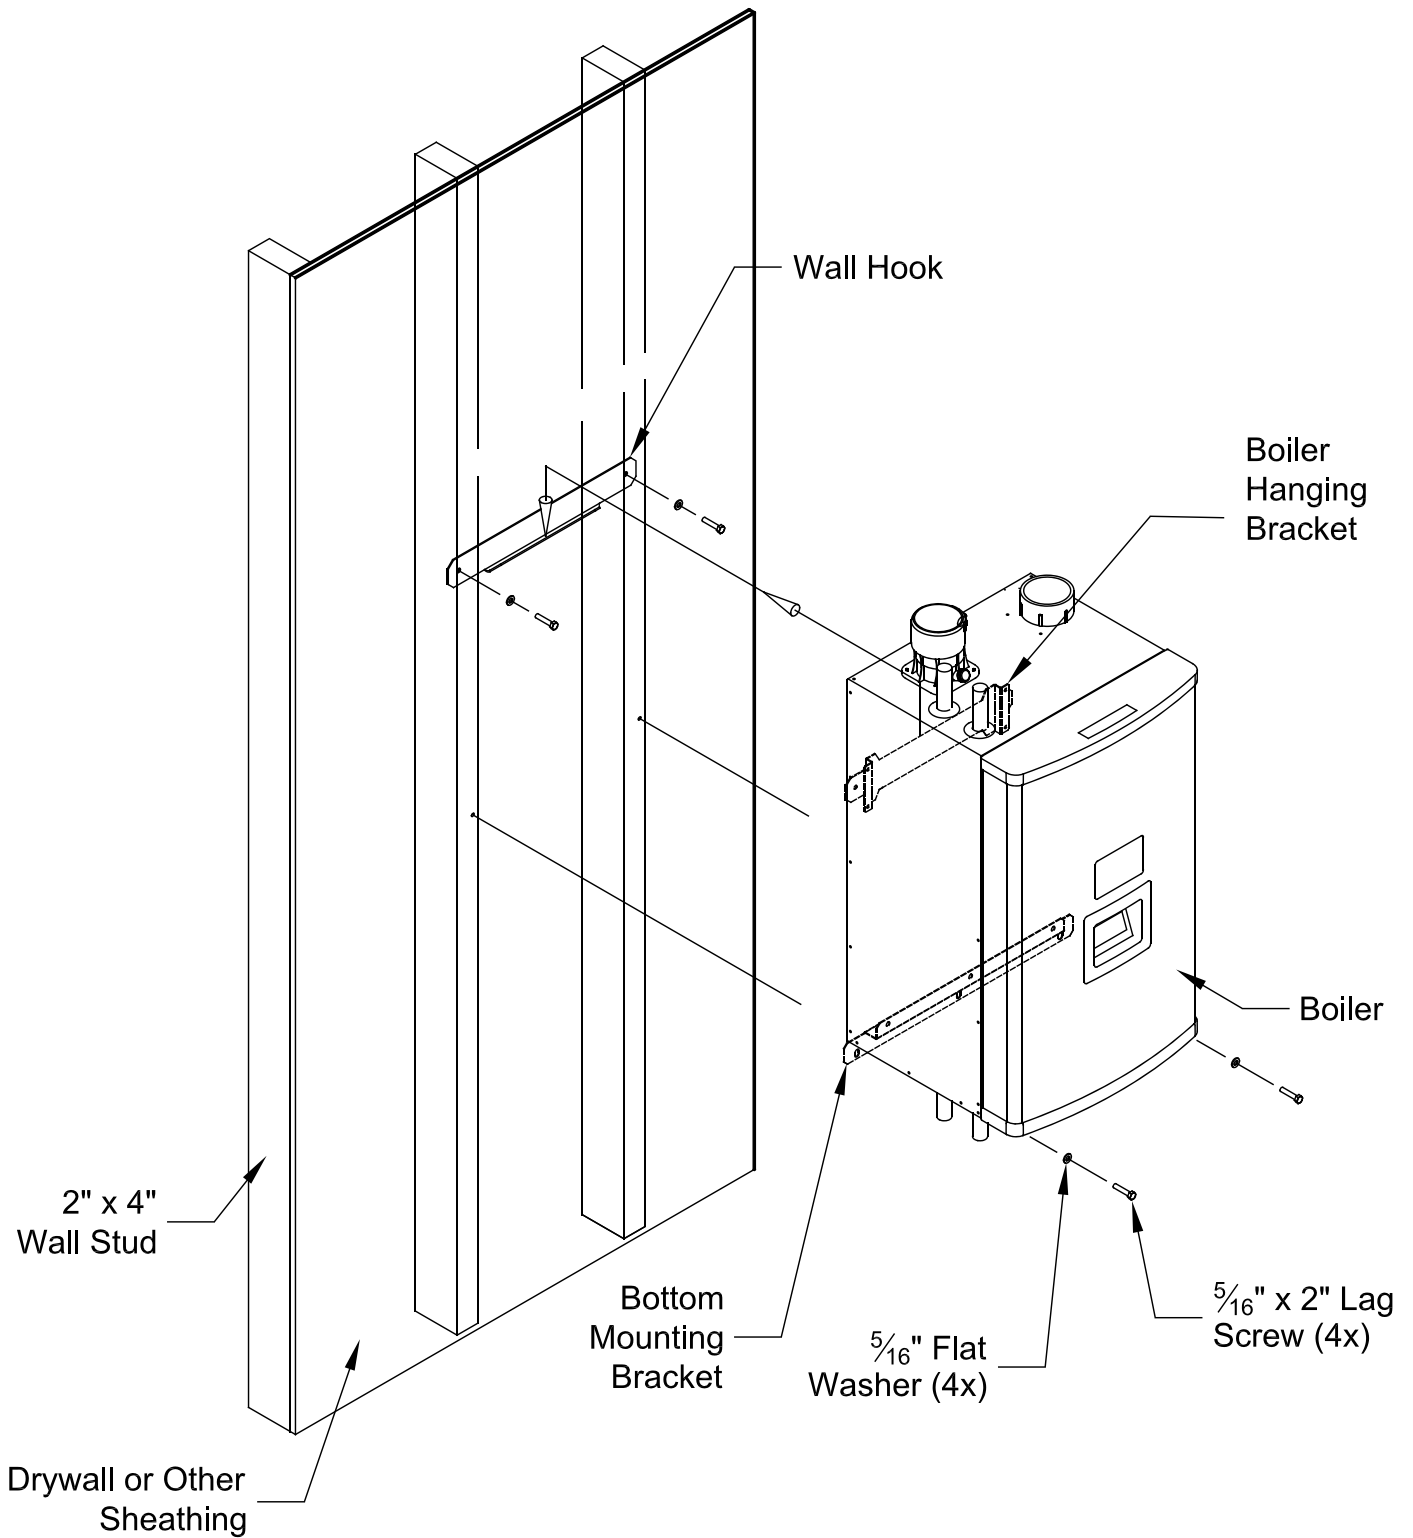

Figure 5.2 Boiler Mounting Bracket Installation / Boiler Wall Mounting
6. The wall mounting hook is used to secure the boiler to the shipping pallet. Remove this hook from the pallet and secure to the wall using the  $\frac{5}{16}$ " x 2" lag screws and washers, or other suitable anchors as appropriate (Figure 5.2). Make sure the hook is level.
7. Hang the boiler on the wall hook as shown in Figure 5.2.
8. If not already done in Step (5) locate and drill holes "C" and "D" using the obround slots in the bottom mounting flange. Secure the bottom flange to the wall using the  $\frac{5}{16}$ "x 2" lag screws, or other fasteners as appropriate (Figure 5.2).